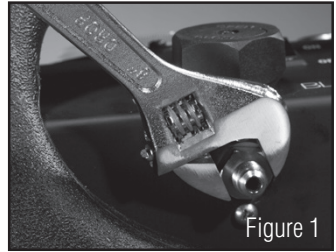

Figure 1
- Use 5/8" socket or boxed end wrench to loosen suction port (Figure 1).